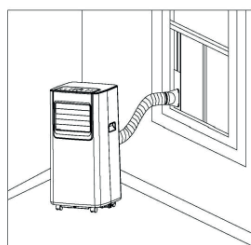
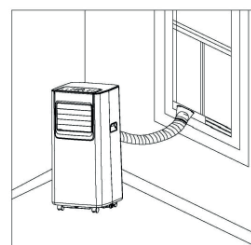

Fig. 5
Fig. 6
- Elongate the exhaust pipe and put together the flat end of the exhaust pipe joints into the hole of the window-sealing plate assembly (as shown in Fig.5 and Fig.6).